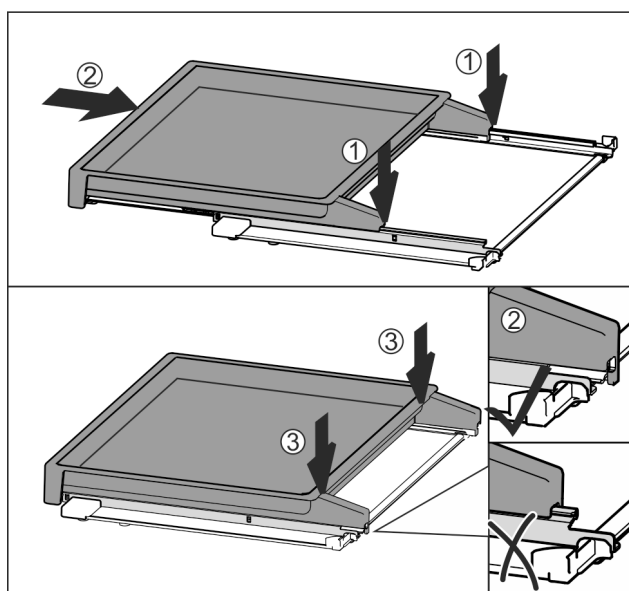

Fig. 44
- Place centrally on the rails Fig. 44 (1).
- Slide the pull-out board all the way in Fig. 44 (2).
- Press down at the back until it clicks into place Fig. 44 (3).